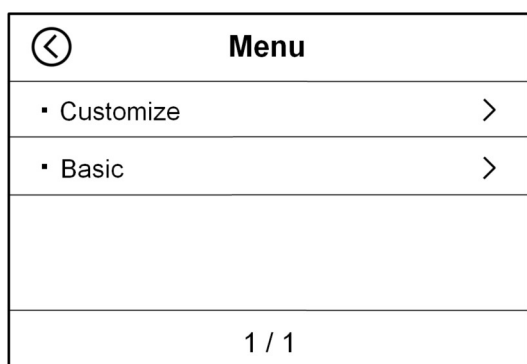
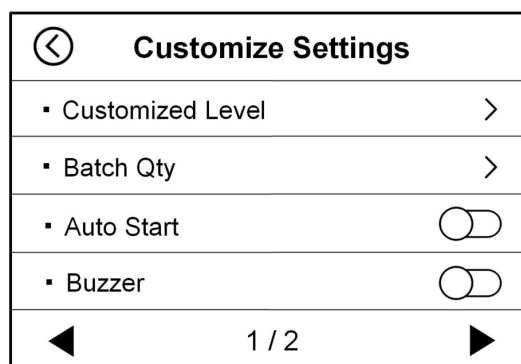
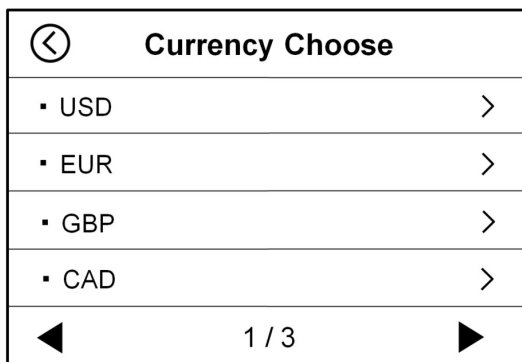
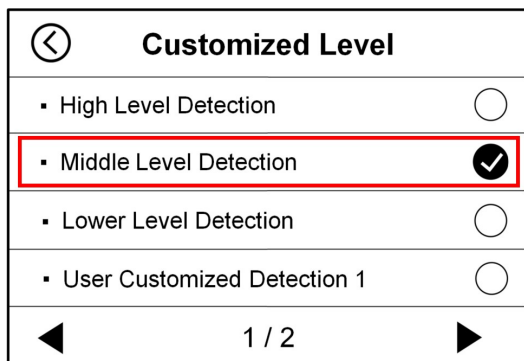

Figure 38
Figure 39
Figure 51
Figure 52
1) In the main interface of the machine, press the "MENU" button on the right to enter the "MENU" interface shown in Figure 38 below. Then touch "Customize" to enter the "Customize Settings" interface, as shown in Figure 39 below.
2) Under the interface in Figure 39, touch the "Customized Level" option to enter the "Currency Choose" interface, as shown in Figure 51 below.
3) Take the dollar as an example. In the interface of Figure 51, touch the "USD" option to enter the counterfeit detection gear setting interface, as shown in Figures 52 and 53 below. In the interface shown in Figure 52, the counterfeit detection gears are available in three gears: high, medium and low. The higher the gear, the higher the counterfeit detection sensitivity. The default counterfeit detection gear of the machine is mid-range. Users can select the appropriate counterfeit detection gear according to the actual counting demand, and click the "✔" key on the back to confirm and save." User Customized Detection 1 "and" User Customized Detection 2 "are not recommended for direct use by customers.